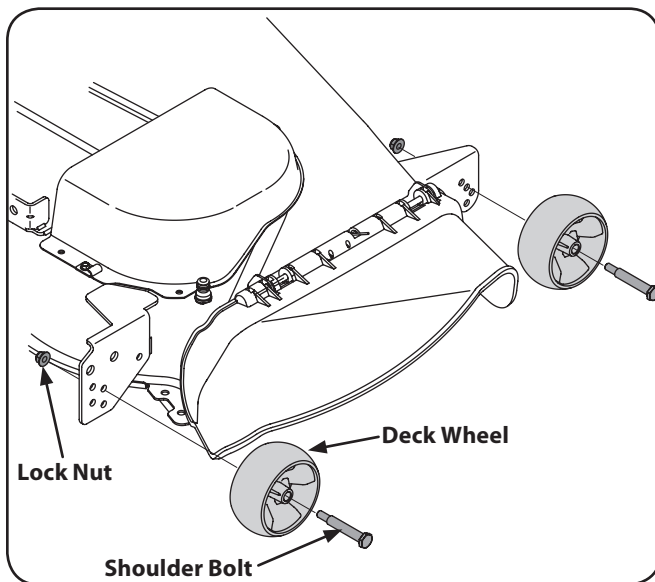

Figure 6-6
- b. Remove the front and rear deck wheels by removing the lock nuts and shoulder bolts which secure them to the deck. See Fig. 6-6.